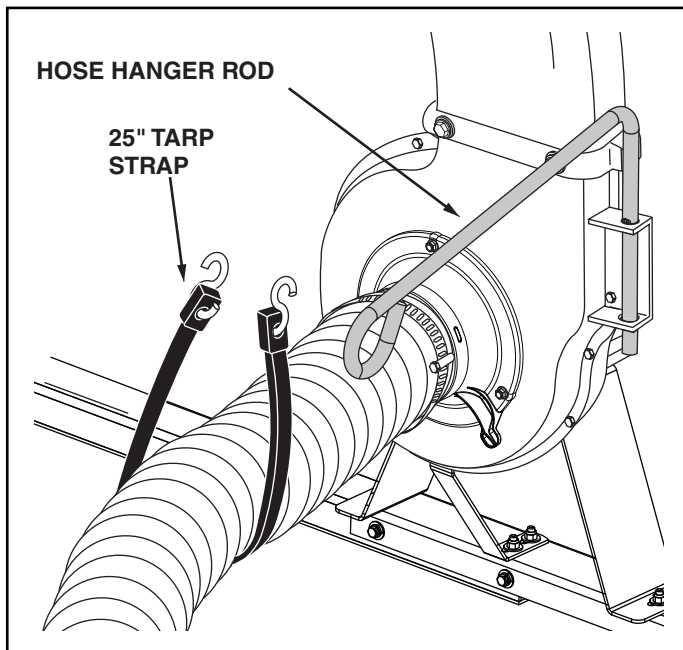

FIGURE 11
16. Place the hose hanger rod into the hose hanger bracket on the impeller housing assembly. See figure 11.
17. Loop the 25" tarp strap under the hose. Fasten the hooks to the hose hanger rod. See figure 11.